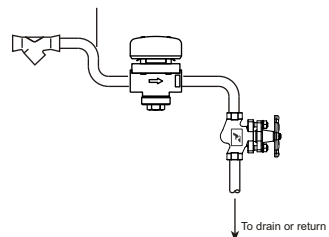

Figure 3: Installation of FMTD76-M on Mainline
5. Installation Guidelines: [Refer figure 3]
6.1 Flushing of lines: [Refer figure 3]
6.2 Commissioning: [Refer figure 3]
1. After flushing of lines is complete, ensure that drain valve (C) is closed and stop valve (B) is opened.
6.3 Commissioning with particular reference to venting air: [Refer Figure 3]